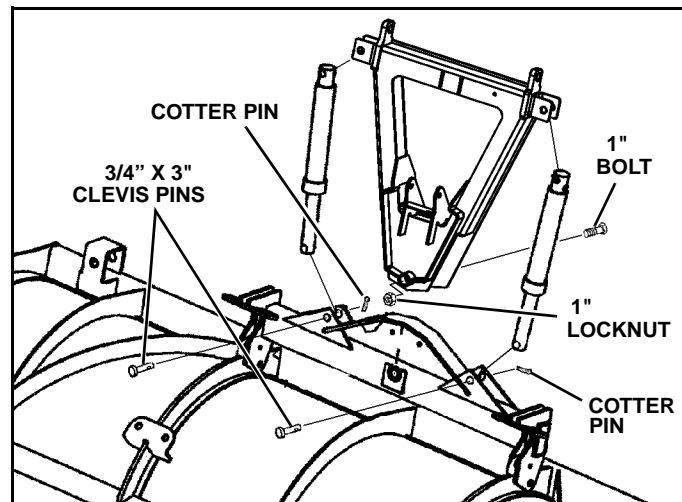

Figure 1-13
2. Remove 1" locknut and bolt. Slide swing frame into A-frame. Replace 1" bolt and locknut and tighten. (See Figure 1-13).
3. Remove cotter pins and 3/4" clevis pins from rod end of cylinders. Extend cylinders to align holes in cylinder rod and swing frame. Insert 3/4" clevis pins and secure with cotter pins (See Figure 1-13). Bend cotter pin as shown in Figure 1-6 to prevent it from working loose.